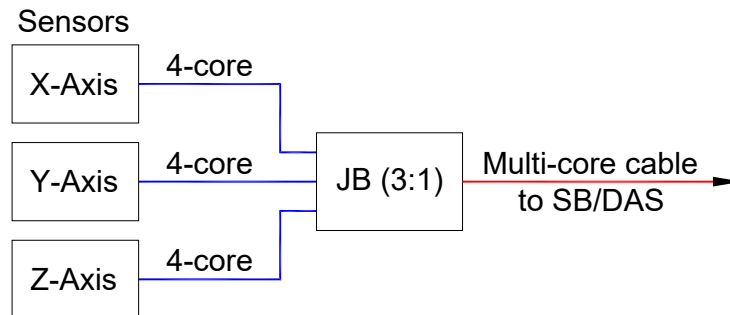

Figure 5 – Sensor connection to junction box
10. Mounting brackets can be identified as per figure 5. Fix and grout brackets 1, 2 & 3 with the help of dummy sensor as per figure 6. The grout depth/height for 1 & 2 brackets is 200 mm and for bracket no. 3 depth/height of grout is 240 mm. Take precaution in grouting such that dummy sensor threads are not jammed as it is to be replaced by actual sensor.